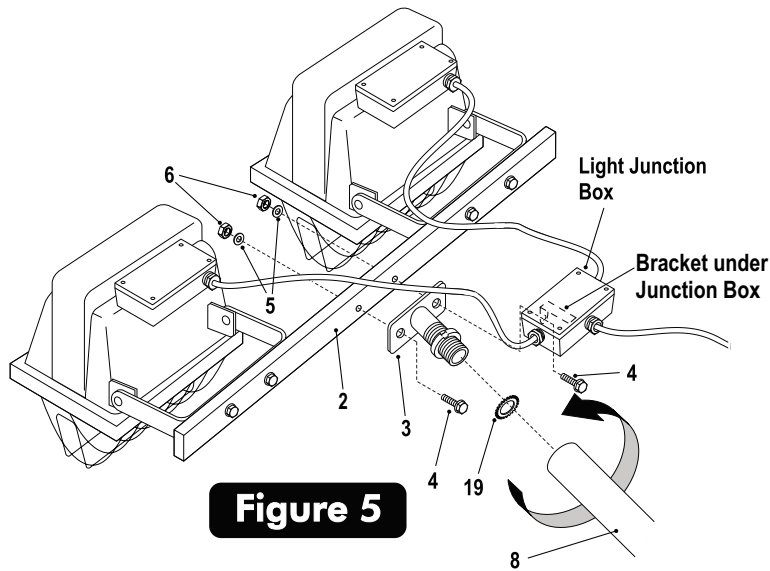

Figure 5
- Install a Serrethead Washer (#19) onto Lamp Base (#3) and screw the threaded portion of the Lamp Base (#3) into the threaded end of Pole Section "A" (#8). Secure Lamp Base by tightening jam nut on Lamp Base (#3) against end of Pole Section "A" (#8). See Figure 5.
- Attach Lamp Base (#3) and Light Junction Box to Lamp Mount Bar (#2). Slide Washer Head Bolt (#4) through bracket under Junction box then through Lamp Base (#3), Lamp Mount (#2), Washer (#5) and locknut (#6). Repeat step for other side (except for bracket portion). Tighten hardware securely but do not over-tighten. See Figure 5.